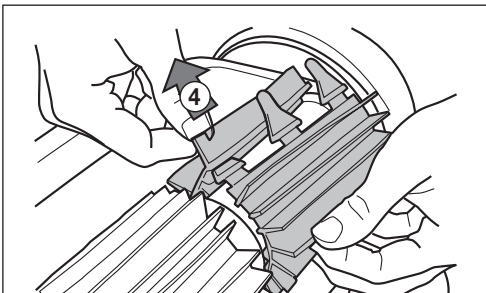

Figure 27. Pull Tabs Through Each Slot
4. Thread each tab into the slot provided and gently feed it through until the heel comes out at the other side of the slot. See *Figure 27*.